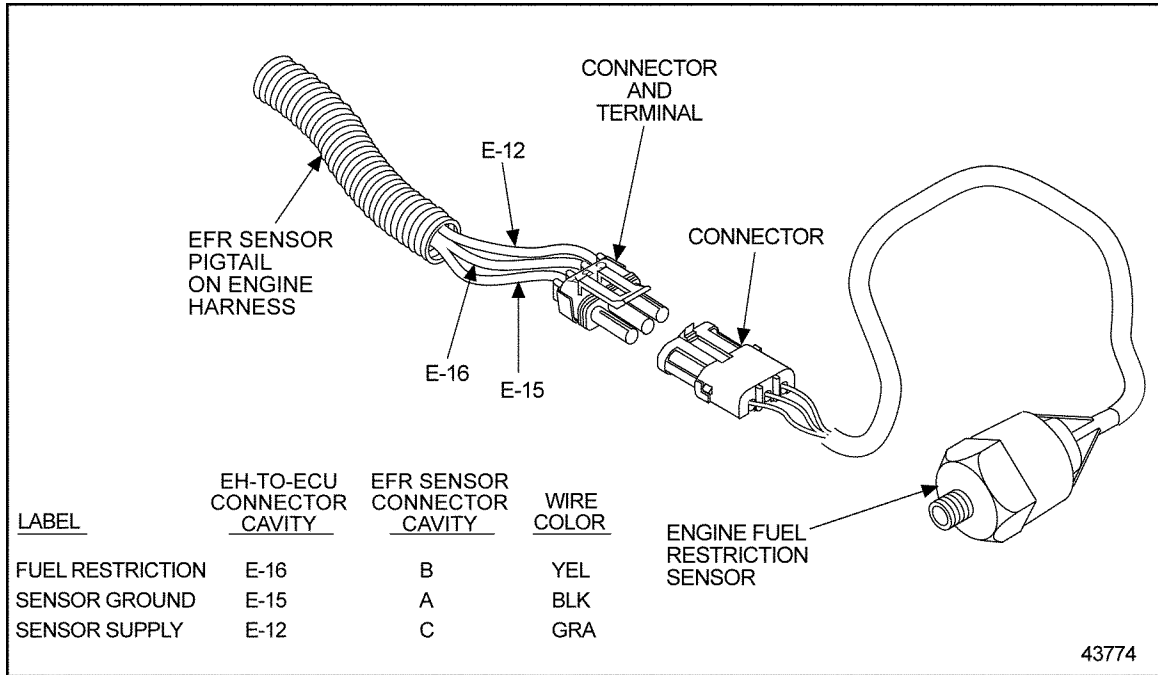

Figure 41-3 FRS/Fuel Restriction Sensor
2. Install a jumper wire between pins A and B of the FRS/Fuel Restriction Sensor harness connector. See Figure 41-3.